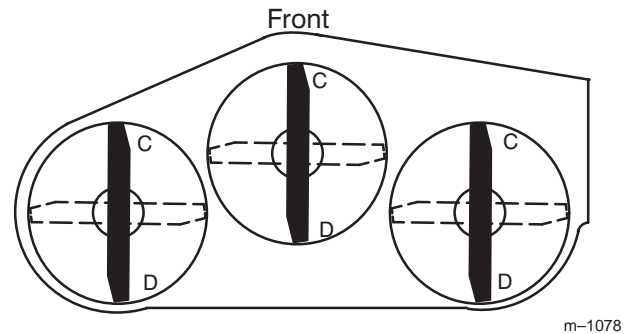
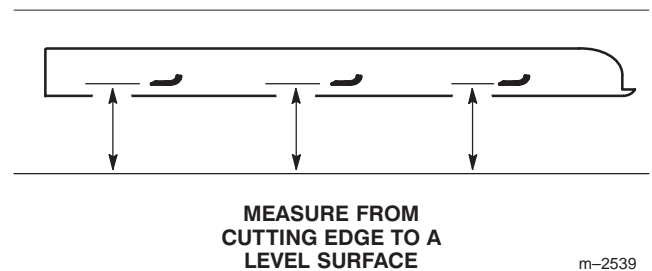

Figure 50
Figure 51
2. Position one blade front-to-rear (Fig. 50). Measure at **C** and **D** locations (Fig. 50) from a level surface to the cutting edge of the blade tips (Fig. 51).
4. Position the blades front-to-rear (Fig. 50). Measure at **C** and **D** locations (Fig. 50) from a level surface to the cutting edge of the blades (Fig. 51).